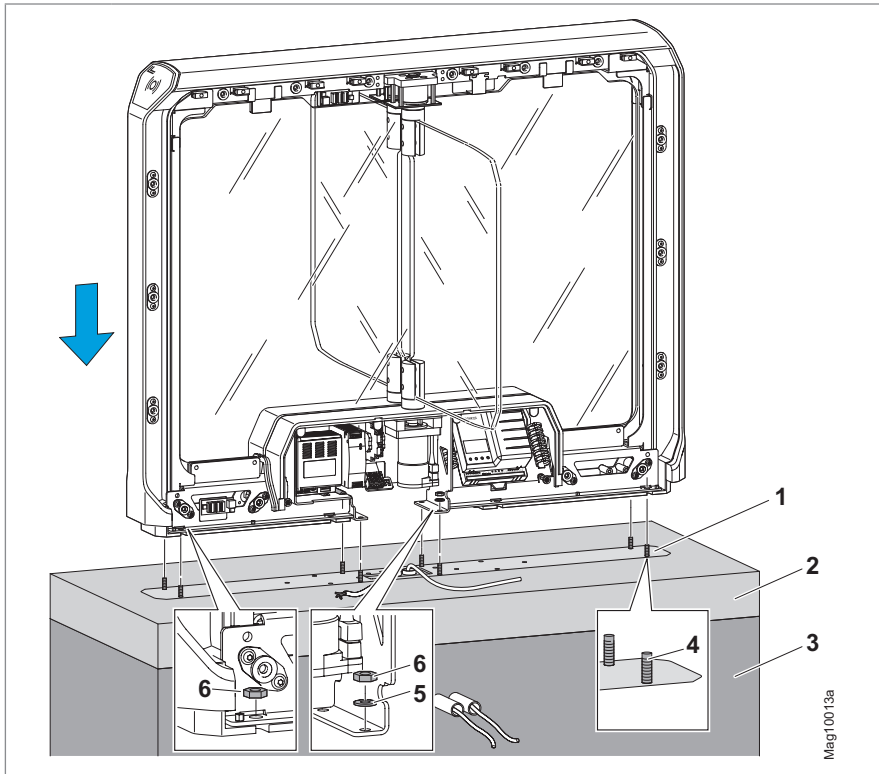

Fig. 27: Mounting variant 2
2. Place the mWing on the threaded rods. ↗ Page 56, Fig. 27.